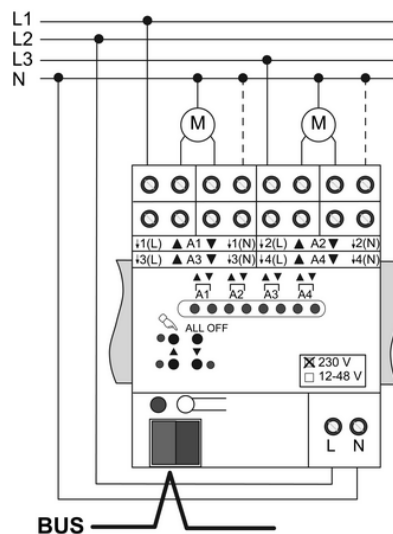

Figure 3
- Connect bus cable with connecting terminal (Figure 3).
- Connect mains voltage supply (Figure 3).